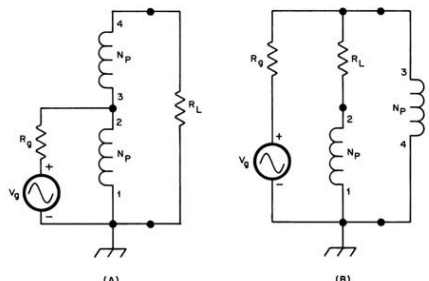

Figure 6 · Low frequency models for the Ruthroff 1:4 unun (A) and balun (B).
Figure 6 shows the low frequency models of Ruthroff's 1:4 TLTs. (A) is the unun model and (B) the balun model.